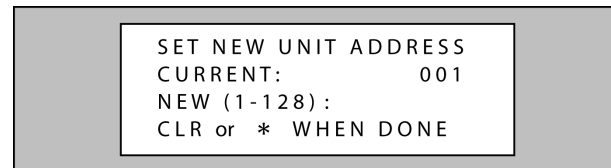

Figure 4: Set Unit Address Menu
1. From the Reset Menu, select number 1 on the controller keypad. The LCD will display the Set Unit Address Menu (see Figure 4) showing the current default address of the controller. If this is a master unit, it must be set to address 1. If it is a slave unit (an EntraGuard Gold controller may only be slave to another EntraGuard Gold unit), the address may be set to any number from 2-128.